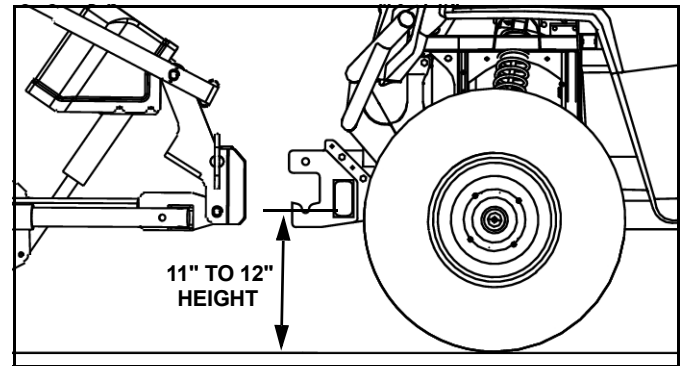

Figure 5
- Position the UTV Mount (#1) on the machine. Align the mount holes with both Front Brackets (#2 & 3) to provide an 11" to 12" height between the lower pin slots and the ground. (See Figure 5.)